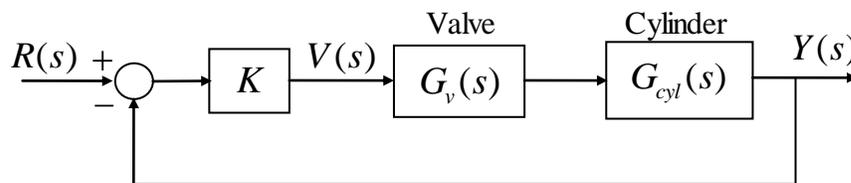

Figure 1. Block Diagram of a Closed-Loop Hydraulic Actuation System
- **Fig. 1** shows the block diagram of a basic closed-loop, hydraulic actuation system. The system consists of a linear proportional control valve, a hydraulic cylinder, and a proportional controller.